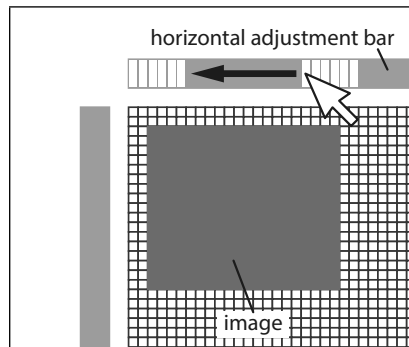

Fig. 96
2. Click and hold down on the left mouse button whilst moving the cursor left and the individual pixels will highlight (in white) one by one along the top bar, as shown in **Fig.96**.